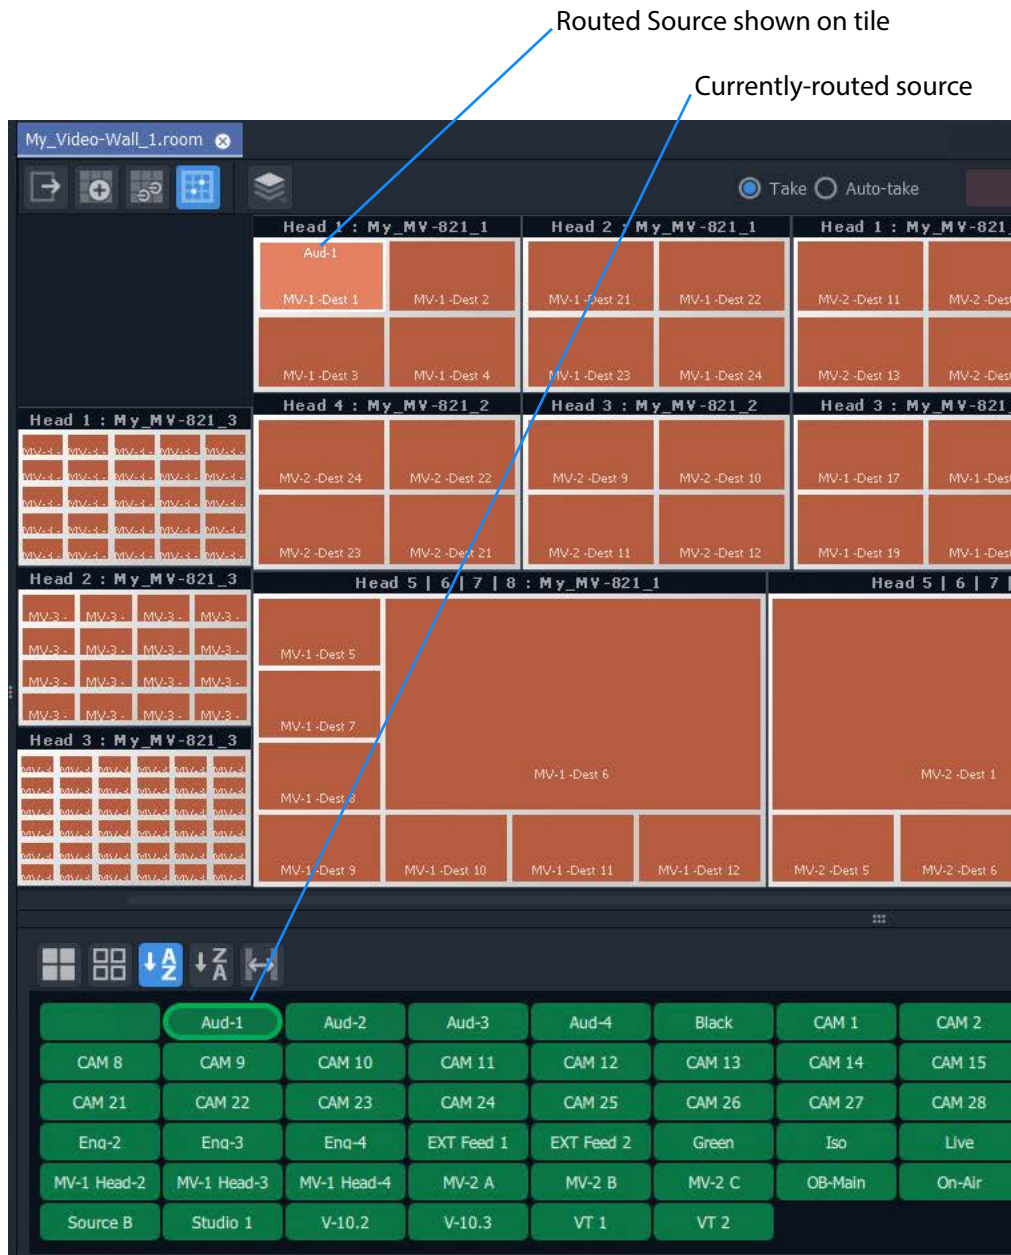

Fig. 16-79: Routed Result
- a) the selected tile position (see Figure 16-79); and also to